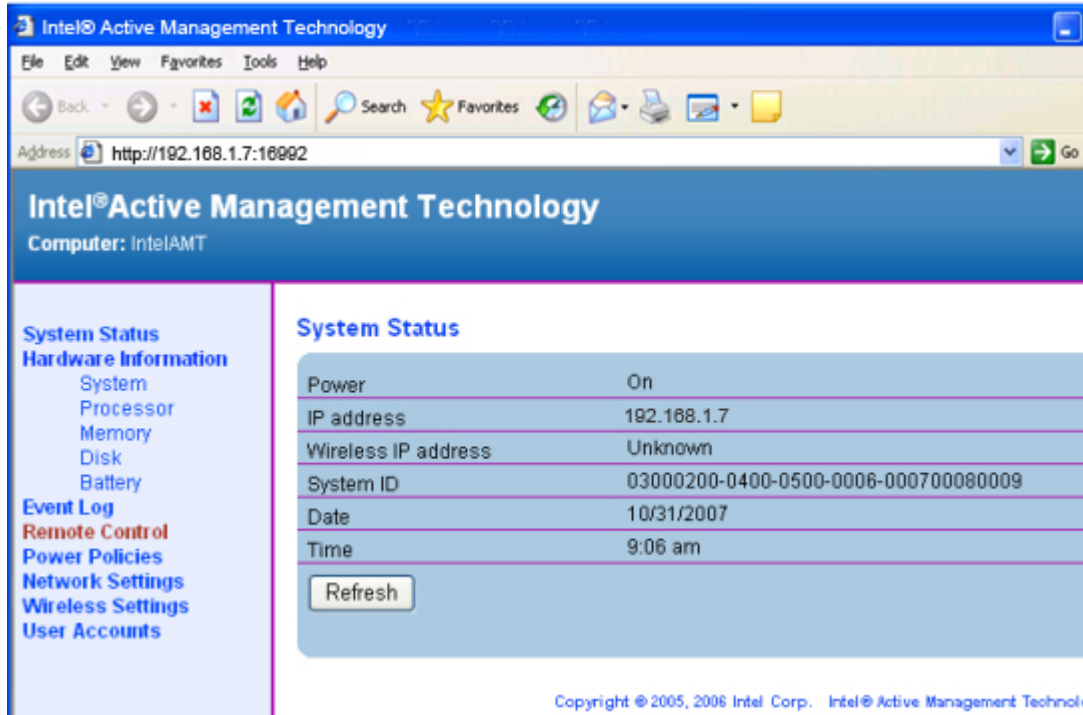

Figure 7-13: Intel® AMT Web Interface
- Step 8:** Press **OK** and the Intel® AMT web interface appears (**Figure 7-13**).